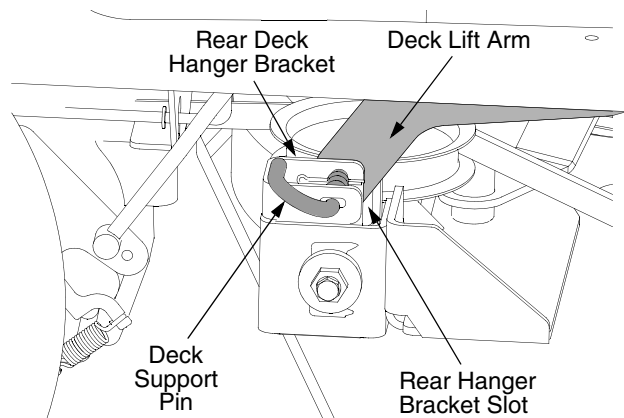

Figure 29
- Locate the LH and RH deck support pins on each side of the deck. Pull the deck support pins outward and lock in the disengaged position to release the deck from the tractor's LH and RH deck lift arms. See Figure 29.
4. Maneuver the deck so that the slots in the two rear deck hanger brackets approximately align with the deck lift arms of the tractor. Refer to Figure 29.
6. Pull the deck support pins outward and maneuver the deck as necessary to align the holes in the deck lift arm with the pins. Refer to Figure 29.